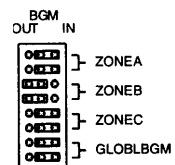

Figure 7-3: Background Music Jumpers
**Note:** Both BGM jumpers must be moved for the background music to be inhibited (see Figure 7-3).